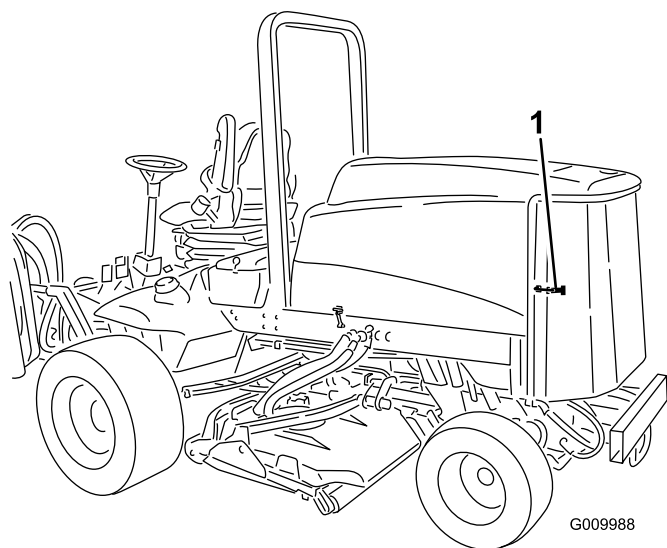

Figure 49
- Unlatch and swing open the rear screen (Figure 49). Clean the screen thoroughly of all debris.